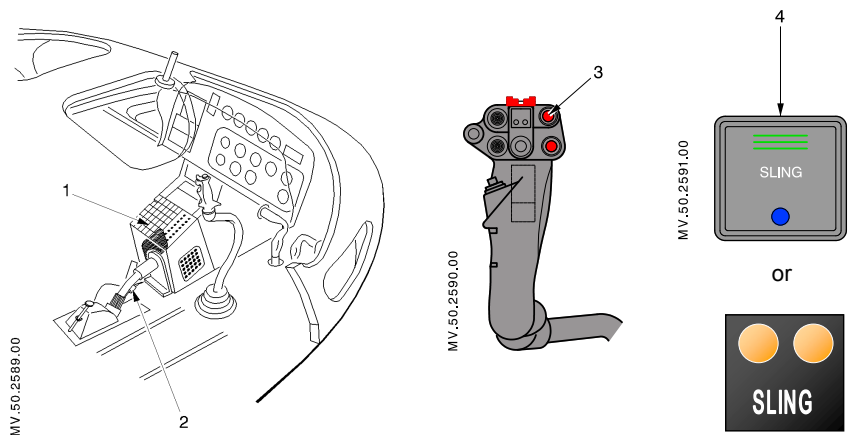

Figure 2: Cargo sling controls
- A control system for the pilot (Figure 2), including:
- a [SLING] pushbutton (4) located on the SCU (1), for powering-on the installation,
- a release control (3) on the cyclic stick (electrical mode),
- a release handle (2) located under the collective lever (mechanical mode).